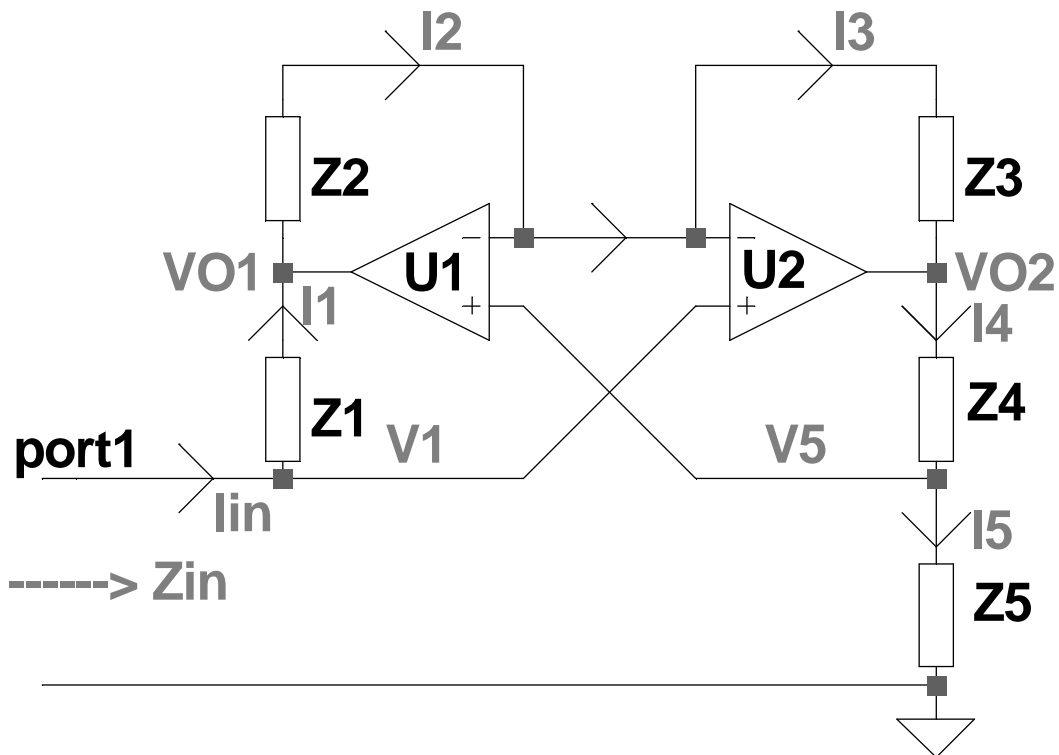

Figure 3: a Generalized Impedance Converter
Consider figure 3's circuit; it's two of our simple impedance converters butted back to back and cross-coupled to the opposite output. With the connection topology and polarity in the figure, it can be shown that as an impedance converter the block is unconditionally stable. What that means is that if the impedance you want (including non-physical ones such as the D-element) would theoretically be stable when embedded in the rest of the network you're making, the synthesized implementation with this topology will be too [ref. 2]. It's straightforward to follow the same analysis sequence as we used on the simpler circuit (why not have a go?). Remember, all four amplifier inputs are at the same potential. Here, I'll just jump to the key result:
Note that figure 3's circuit is symmetrical in the sense that we could attach an impedance Z0 to the input port at Z1, and look into the port where previously Z5 was fitted. If Z0 isn't equal to Z5 then we'll 'see' a different impedance looking back like this. The circuit doesn't "look the same from both ends" and can't be used to create a floating component (which must inherently "look the same" either way).